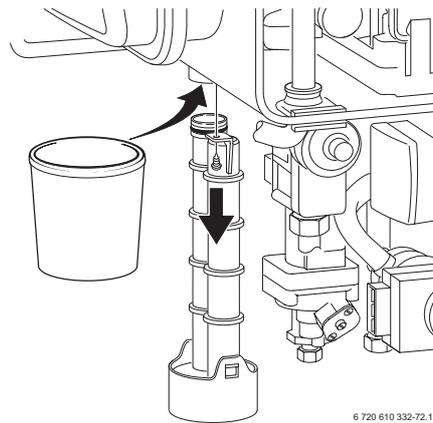

Fig. 52
- ▶ Unscrew condensation trap and place suitable container underneath. Refer to fig. 52.
In order to prevent spillage of condensate, the condensation trap should be completely removed, (see page 35, fig. 52).